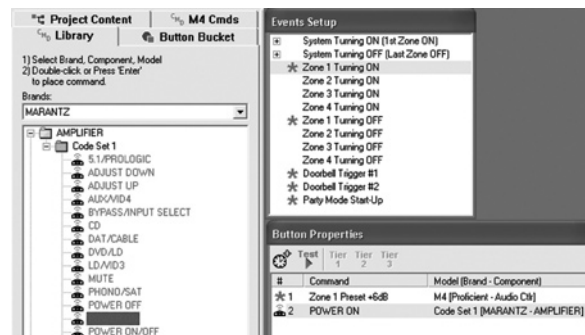

Figure 43 Placing Commands on Zone 1 Turning ON and OFF
4. Double-click a **POWER ON IR** command from the **CMD Library** for a typical IR controlled amplifier, placing it on the **Command** list. Refer to **Figure 43**.